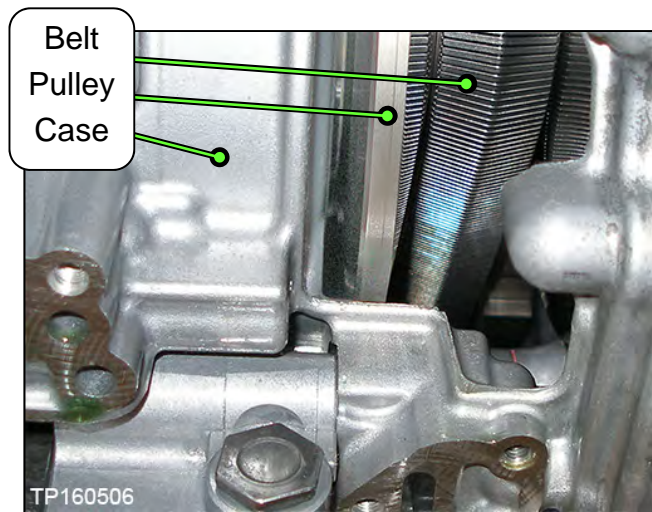
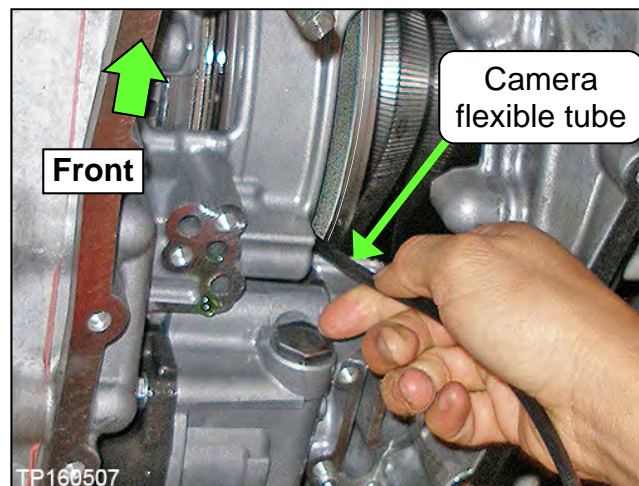

Figure 10
Figure 11
6. Using borescope J-51951 with its mirror attachment, insert the camera lens between the CVT case and pulley (Figure 10 and Figure 11).
- Insert the lens approximately seven (7) inches, and then view the side of the belt that contacts the pulley.